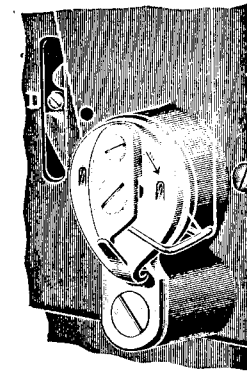

Fig. 20
To vary the tension of the thread controller spring, remove the face plate and loosen the small set screw (see Fig. 20) at the right of the controller, which sets the thread controller stud, then from the inside turn the stud forward or backward as required, and retighten the set screw. In any case, when an unusually light tension is used, the tension on the spring should be correspondingly light. The coils of the spring should be oiled occasionally.
**To Place a New Thread Controller in Position.** Remove the entire thread controller by taking out the largest screw (see Fig. 20) and release the spring by removing the middle screw. (Be careful not to lose the small roller.) Place the new spring, roller and screw in their positions. Next put the entire thread controller on the face plate, taking care to slide the little tail, on the coil of the spring, into the notch in the stud over which the coil slides.